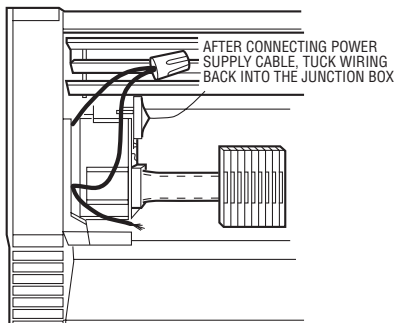

Figure 8. Wiring Through Junction Box Opening
- If the power supply is to feed heaters at the junction box that is adjacent to another heater, it is easier for the power supply connections to be made prior to the installation of the heater(s) to the wall. If this is not possible, connections may be made through the opening in the junction boxes when the front cover(s) is removed. See Figure 8.